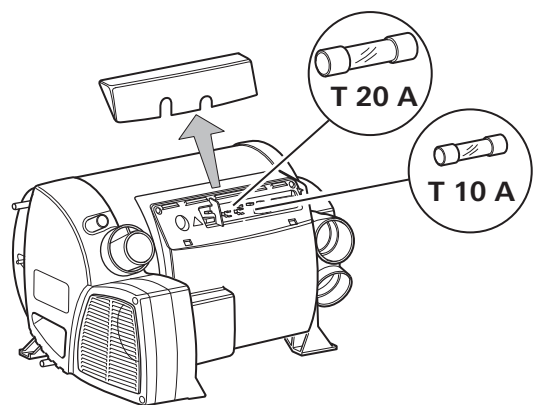

Fig. 8
- While detaching or reattaching the connector cover ( Fig. 8), take care to neither dislodge nor pinch the connector cables.